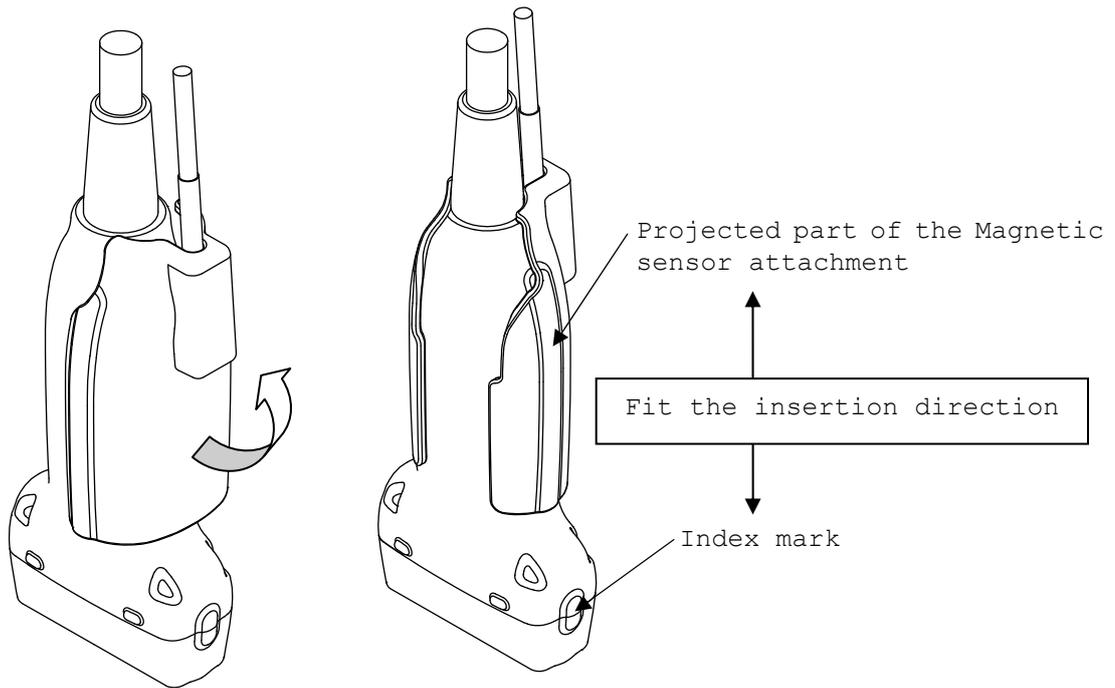

Fig. 10 How to attach the Magnetic sensor attachment
- 2) Place the magnetic sensor attachment on the probe as shown in Fig. 10. Fit the projected part of the magnetic sensor attachment in the index mark of the probe.